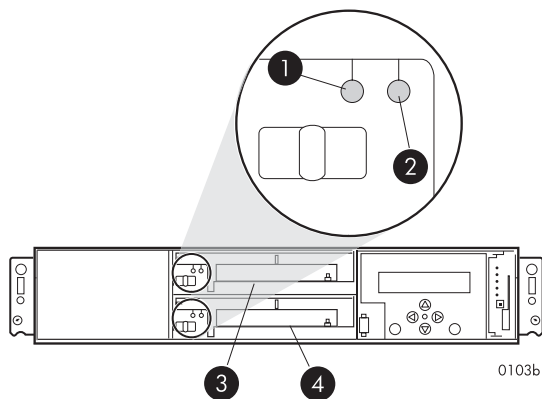

Figure 41 Blower status indicators
- Check the blower status indicators. See Figure 41. The fault indicator (2) should be on. To view the status indicators it may be necessary to remove the front panel as described in Removing a blower.
- Check the controller blower status indicators. See Figure 41
- The status indicator (1) should be on.
- The fault indicator (2) should be off.